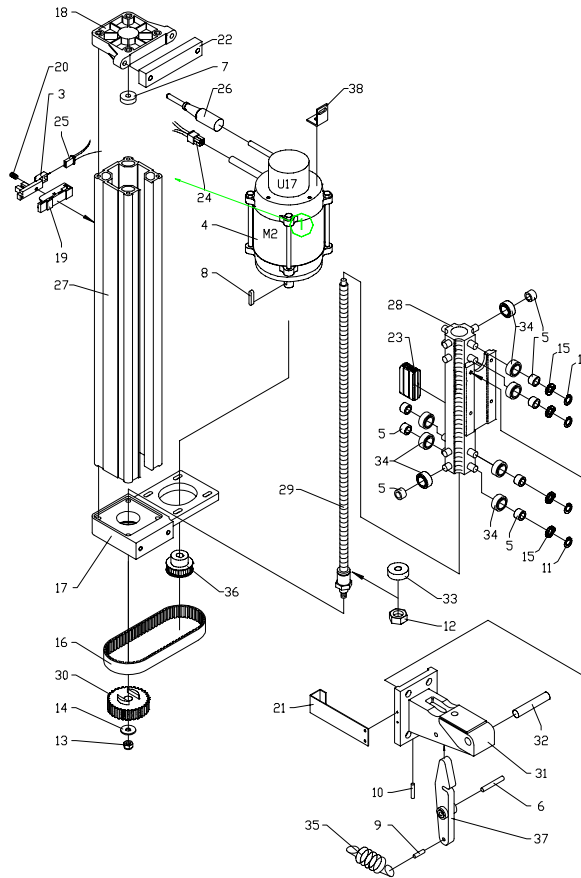

Figure 8-8
4. Push the lifter release lever (item 37 in Figure 8-8) towards the rear frame and tilt the lifter down.
4. Remove the four mounting bolts on the motor mount (item 17 in Figure 8-8) and the bolt on the support bracket (item 38 in Figure 8-8).
5. Remove the drive belt (item 16 in Figure 8-8).
6. Remove the drive pulley (item 36 in Figure 8-8) from the motor shaft.
3. Unplug the sensor harness (item 25 in Figure 8-8).
4. Remove the end cap (item 18 in Figure 8-8) from the linear actuator case.
6. Remove the linear actuator case (item 27 in Figure 8-8) from the motor mount.
7. Clean old grease and dirt from all parts and inside of the case. Also clean off the lead screw (item 29 in Figure 8-8) and the lead screw nut (item 23 in Figure 8-8). The lead screw and nut must be clean and free of any grease or dirt.